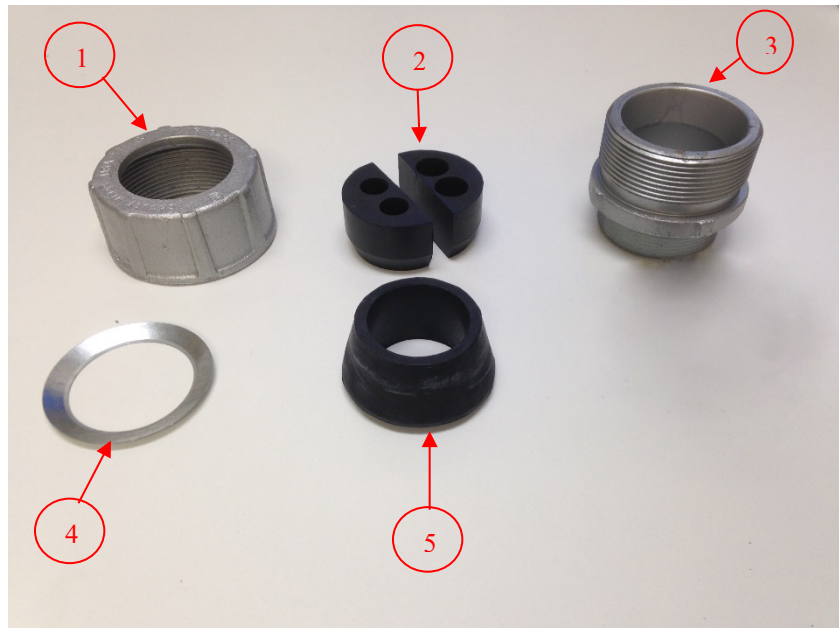
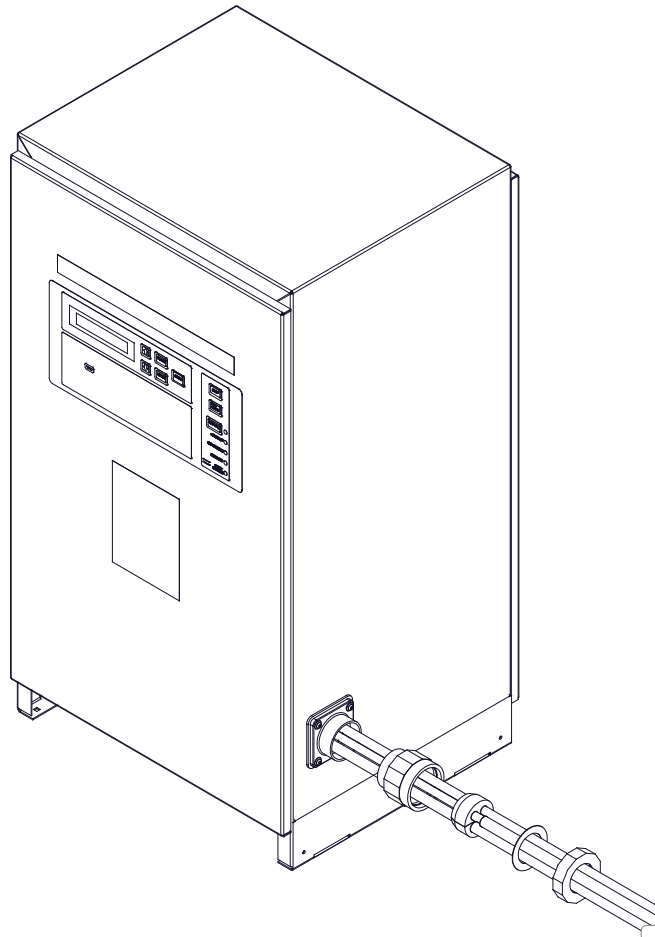

Figure 3: Included Parts
Figure 4: Grommet Installation
20. Install the Split Rubber Grommet (6) by separating the two halves and inserting the appropriate power or communication cable into the slots. **Important: One-half of the grommet has smaller holes, to fit the smaller diameter communication cables. The other half of the grommet has larger holes, to fit the larger diameter negative and positive cables.** The grommet should be placed on the cables as close to the feed through as possible, with the tapered side facing the cable connector body (3). See Figure 3.
21. Push the Split Rubber Grommet (2) into the Hub Connector body, making sure that the two halves line up and there are no large gaps.
22. Slide the Washer (4) and Threaded Cap (1) up to the fitting and tighten until the Split Rubber Grommet (2) is compressed tightly. See Figure 4.